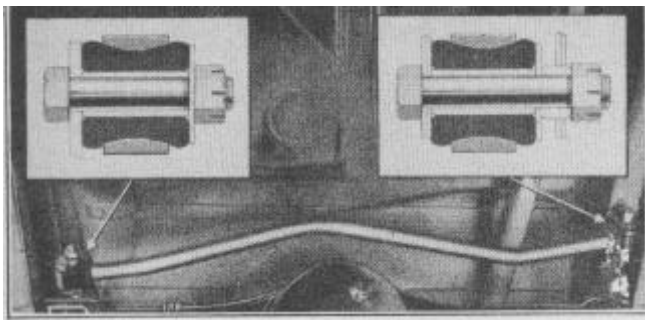

FIGURE 7
12. Remove nuts (1) and washers (2) that hold the rear axle stabilizer bar (3) to the rear axle and body frame side rail. See Figure 7.